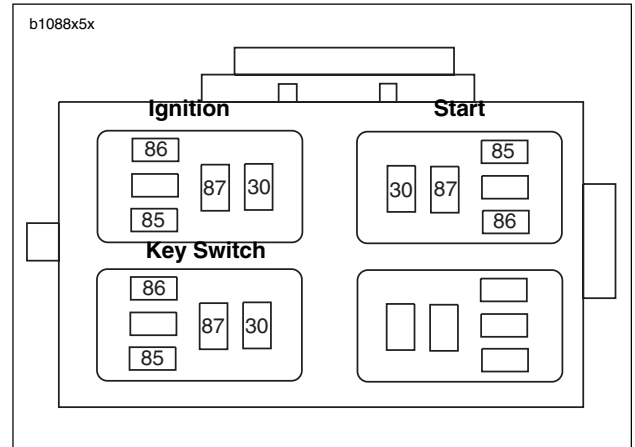

Figure 5-5. Relay Block (top view)
1. See Figure 5-5. Locate starter relay. The relay is attached to the relay block left of instrument console.